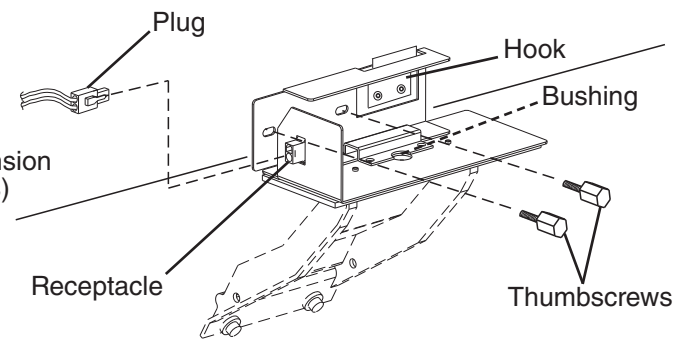

Fig. 7
- f. Insert the plug into the receptacle on the assembly until it locks into place. See Fig. 7.